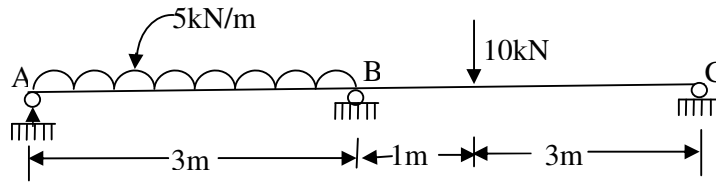

Figure 5
5. Solve the continuous beam shown in Figure 5, by Castigliano's theorem. Draw the SFD and the BMD.